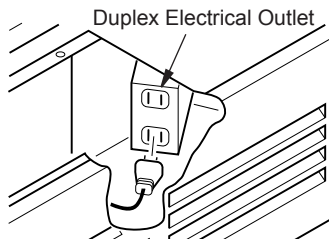

Figure 13 - Accessing Duplex Electrical Outlet Installed in Bottom Right Side of Firebox
⚠ WARNING: If there is a duplex electrical outlet installed in the right side of the bottom of the fireplace base area (see Figure 13), be sure that the electrical power to the outlet is turned off before proceeding with blower installation. Failure to do this may result in serious injury.
6. Plug in blower power cord to duplex outlet (see Figure 13, page 13).